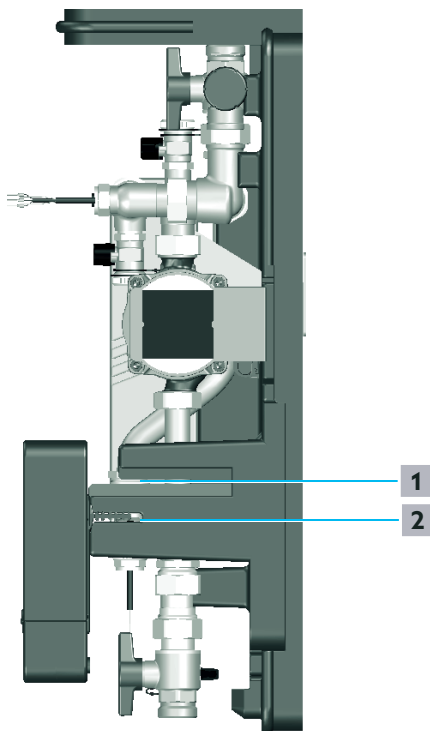

Fig. 30: Mounting position
- 3 Turn the controller and fix it in the mounting position as shown in Fig. 30 on page 45.